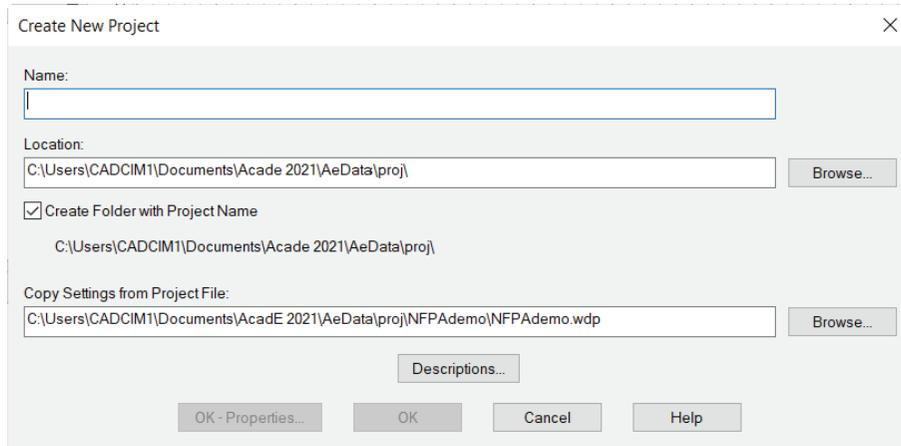

Figure 2-60 The Create New Project dialog box
3. In the **PROJECT MANAGER**, make sure the **Projects** tab is chosen. Next, choose the **New Project** button; the **Create New Project** dialog box is displayed, as shown in Figure 2-60.